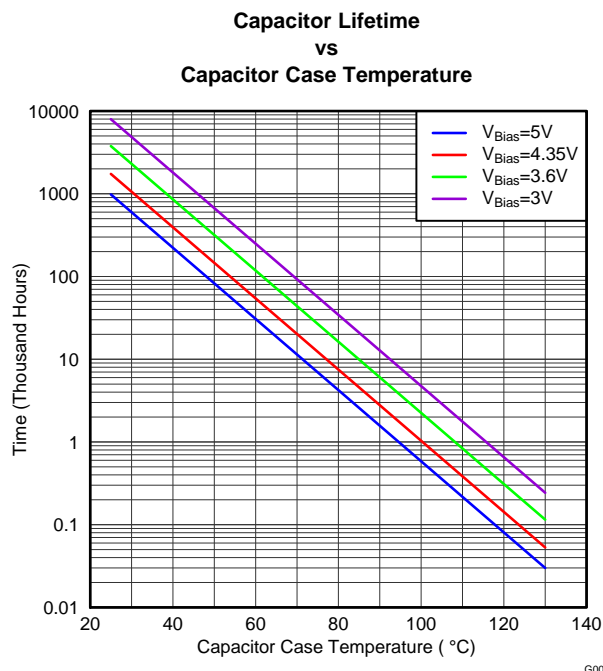

Figure 26.
Failures caused by systematic degradation can be described by the Arrhenius model. The most critical parameter (IR) is the Insulation Resistance (i.e. leakage current). The drop of IR below a lower limit (e.g. 1 MΩ) is used as the failure criterion, see Figure 26. Figure 27 (B1 life) defines the capacitor lifetime based on a failure rate reaching 1%. It should be noted that the wear-out mechanisms occurring in the MLCC capacitors are not reversible but cumulative over time.